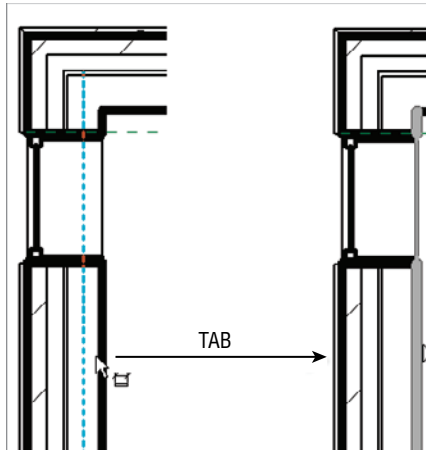

FIGURE 5.28 Press the Tab key to filter to the desired reference of the wall.
7. Zoom in on the left exterior wall, as shown in Figure 5.28.
9. You want Revit to start this dimension string by using the interior face of the finished wall. To do this, hover your pointer over the inside face of the wall, as shown in Figure 5.28.